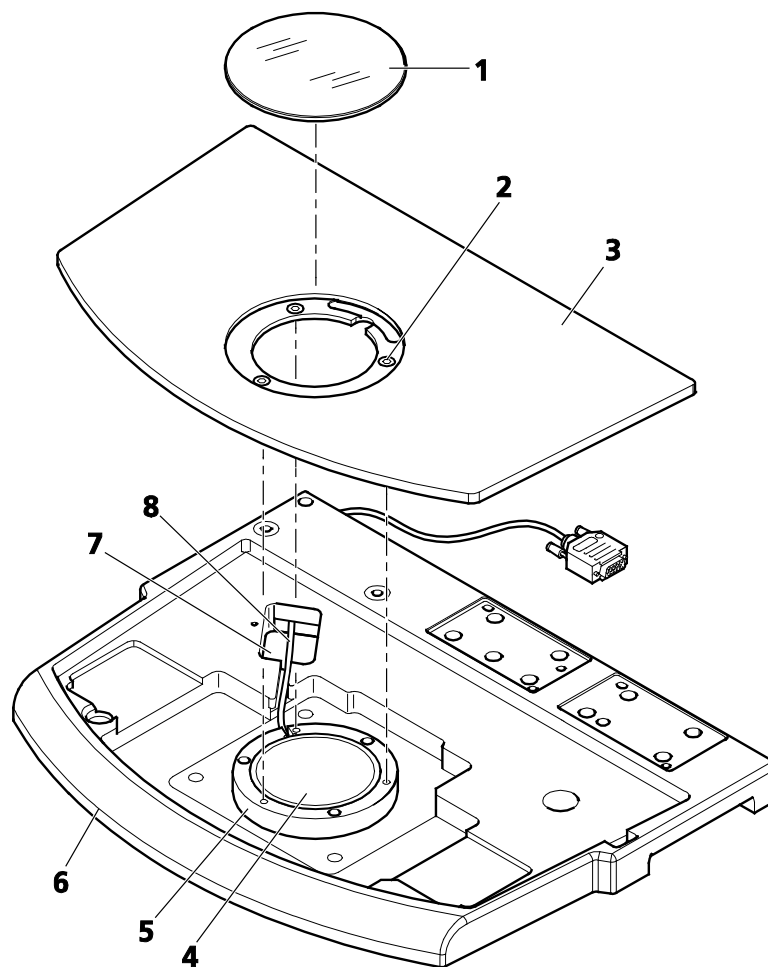

Fig. 21 Inserting the VisiLED transmitted light unit H, d=84 mm into the stand base 450
- Detach the base insert plate (Fig. 21/3) from the stand base 450 (Fig. 21/6). To do this loosen the short socket head screws (Fig. 21/2), lift the insert plate (use recessed grip on the right edge of stand base for the purpose) and lift securely with both hands.
- Place the VisiLED transmitted light unit H (Fig. 21/4) into the adapter ring (Fig. 21/5) of the stand base, insert the cable (Fig. 21/8) into the groove of the adapter ring and pull the cable with plug to the outside through the cut-out (Fig. 21/7) in the stand base.
- Install the base insert plate (Fig. 21/3) and secure it with the three screws (Fig. 21/2).
- Press the glass plate (Fig. 21/1) into the base insert plate.